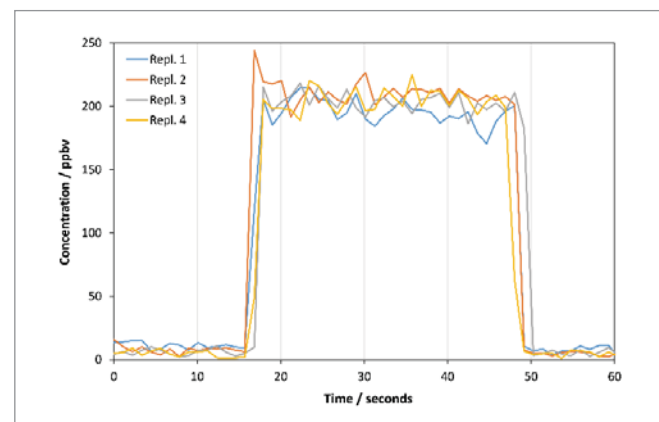

Figure 2. Rapid, replicate analyses of formaldehyde direct from a Tedlar sample bag using automated SIFT-MS.
source have been studied by Lubin et al., who compared the signal intensity obtained by ESI and UniSpray for small pharmaceutical compounds (16 analytes in positive ion mode and 7 in negative ion mode) with acidic, basic and neutral mobile-phase types (1). Figure 2 shows the signal gains (UniSpray ion intensity divided by ESI ion intensity) obtained at various mobile-phase compositions and for three different flow rates. Here, each point is an average of the pooled data for each compound and each mobile-phase type. From these plots it can be concluded that the signal intensity observed with the UniSpray source is higher on average than the ESI signal for all mobile-phase compositions, with the greatest gains seen under highly aqueous conditions. UniSpray gains in excess of $\times 20$ were observed under certain conditions, but
Figure 2 – A comparison of the average signal intensity ratios for UniSpray and ESI versus mobile phase composition for 16 positive ion analytes and 7 negative ion analytes (from reference [1]).
Formaldehyde analysis using SIFT-MS is highly repeatable. Figure 2 shows four replicate injections of a 200-ppbv formaldehyde gas standard taken from a Tedlar sampling bag. The mean concentration reading was 203 ppbv with an RSD of 2.6 percent.